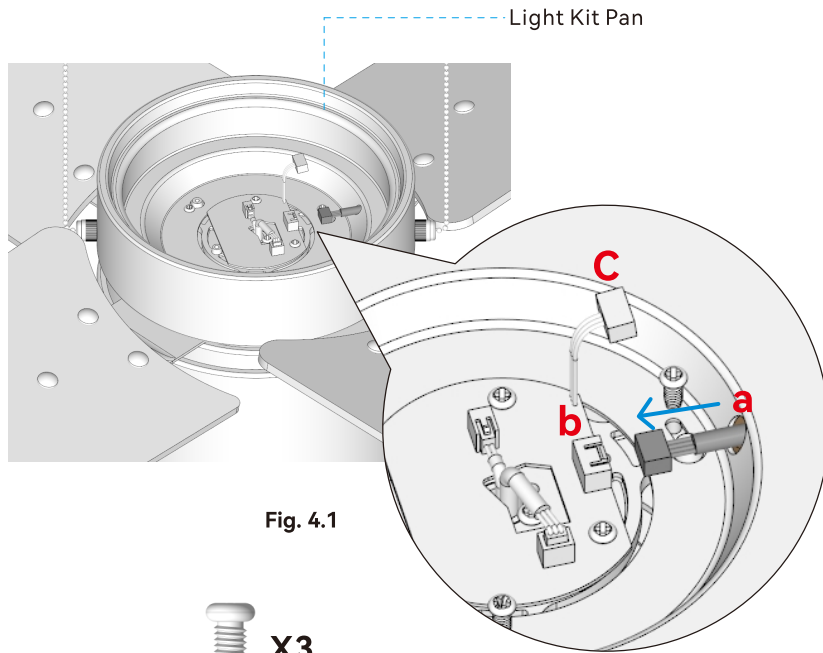

Fig. 4.1
4.1 Connect the male plug (a) from the light kit pan to the female terminal block (b) on the PCB board as shown in Fig. 4.1.